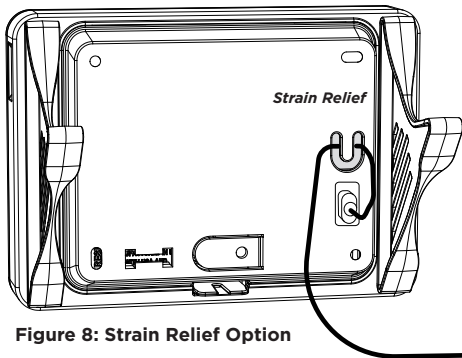

Figure 8: Strain Relief Option
2. If desired, insert the cable into the strain relief to secure the XTLtouch to its power source. See Figure 8.